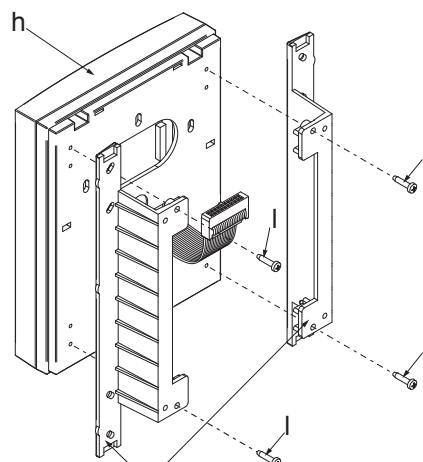
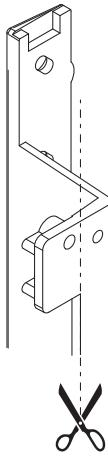
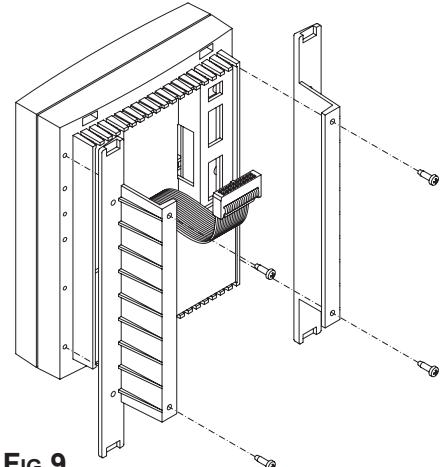

FIG.5
FIG.8
FIG.9
- Arrange the videophone "h" fixing to it the two brackets "i" using the 4 screws "l" as shown in figure 5. If the videomonitor is not a slim line model, first arrange the brackets by cutting their upper and lower sides as shown in figure 8 then, as described above, fix the brackets to the videomonitor as shown in figure 9;